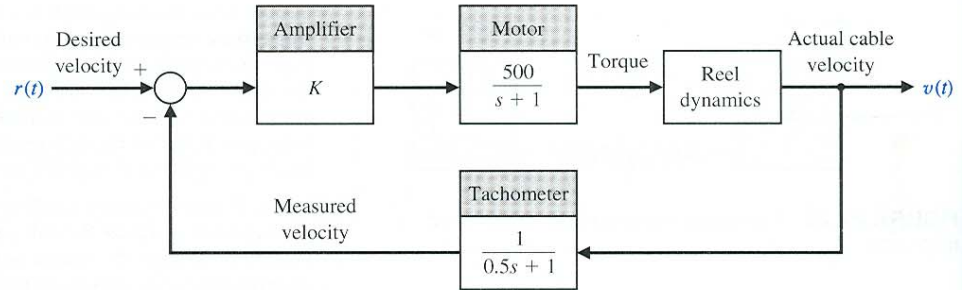

**FIGURE P2.18** LC Ladder network.
**P2.18** An LC ladder network is shown in Fig. P2.18. One may write the equations describing the network as follows: